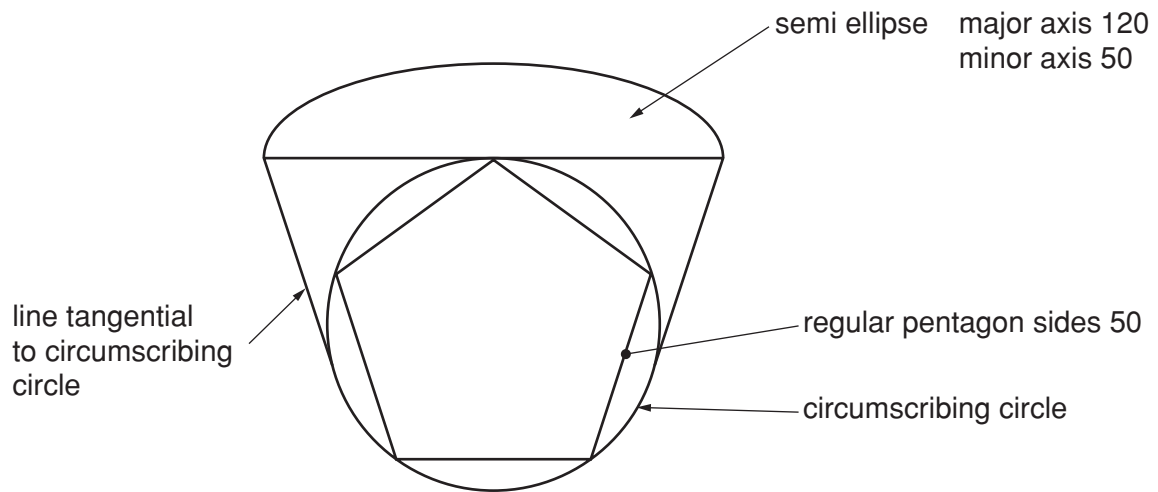

Fig. 1
- 1 Fig. 1 shows the design logo for a new company.